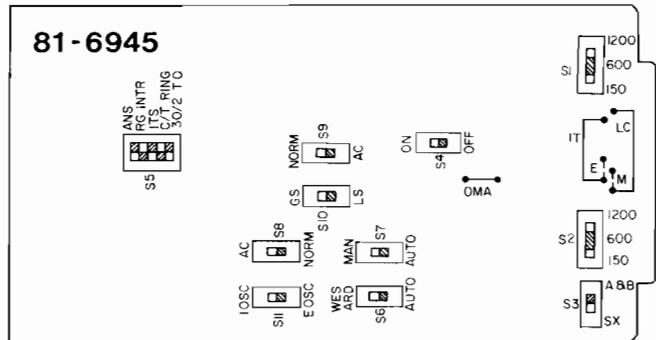

figure 3. Option switch locations
3.05 All frequently used options on the 6945 are selected via slide switches or DIP switches located on the module's printed circuit board as shown in figure 3. A small number of less frequently used options are implemented by means of wire straps, also shown in figure 3. Tables 4 and 5 list all switch options and strap options, respectively, and indicate the option choices, which are explained below. In addition, tables 6, 7, and 8 summarize the specific switch settings required to implement the 6945's local ringing, outgoing-ringing-mode,
3.13 The 6945 contains five strap options, two of which are related to outgoing traffic monitoring, one to incoming traffic monitoring, and two to signaling. These strap options are summarized in table 5 and shown in figure 3. Because certain metering and signaling strap options involve use of the same module connector pins, a choice must be made as to which, if any, of these mutually exclusive options is to be used. Details are provided below.
3.16 The two remaining strap options, straps *M* and *E*, are related to signaling. Strap *M*, when installed, conditions the module so that local manual application of ground to the M/dc-ringdown-input lead (pin 19) initiates outgoing dc ringdown. Strap *E*, when installed, conditions the module to provide ground output on the E lead (pin 21) during local (incoming) ringing only. Unless specific instructions are given to the contrary, Tellabs ships all 6945's with straps *M* and *E* **not installed**. If outgoing dc manual ringdown operation is desired, cut or remove strap *LC* on the module's printed circuit board, install strap *M* where indicated (see figure 3), and connect the external M/dc-ringdown-input lead to pin 19. For all other ringdown modes, **do not install** strap *M*; also, leave strap *LC* in place if outgoing usage metering is desired (see paragraph 3.14). If an external indication (e.g., lighting of an indicator lamp) during incoming ringing is desired, cut or remove strap *IT* on the module's printed circuit board, install strap *E* where indicated (see figure 3), and connect the external E lead to pin 21. If, however, continuous ground output for the duration of each incoming call is desired, **do not install** strap *M*; instead, leave strap *IT* in place (see paragraph 3.15).